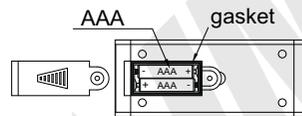

Fig.3
- Insert two AAA batteries as the Fig.3, make sure gasket in the groove, install battery cover and then tighten the locking screw